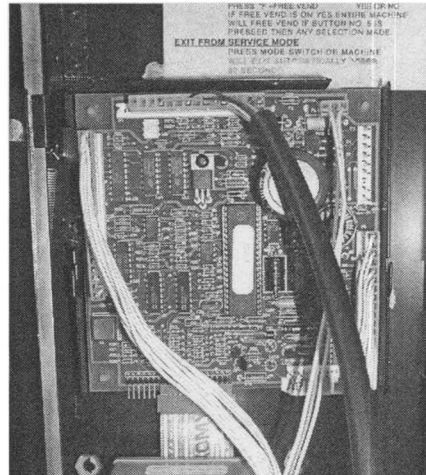

Figure 1.
2. Locate the Vending Machine Controller (VMC) on the left side of the door. Carefully, unplug all connections to board. Refer to Figure 1.